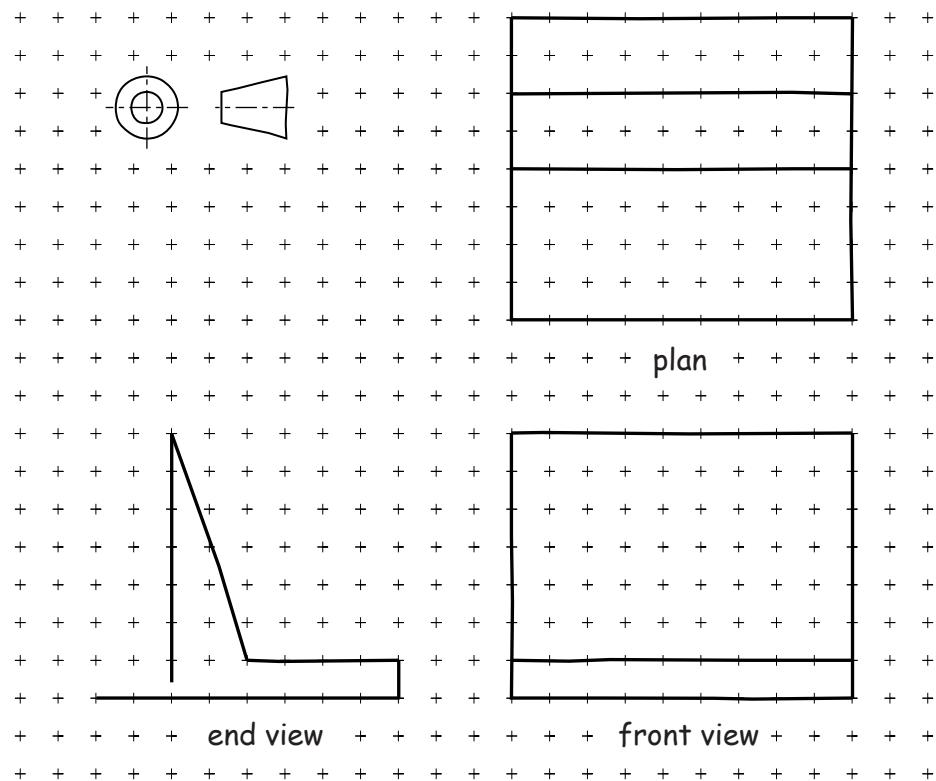

Fig. 2
- 2 Orthographic views of a prototype point of sale display stand are shown in Fig. 2.